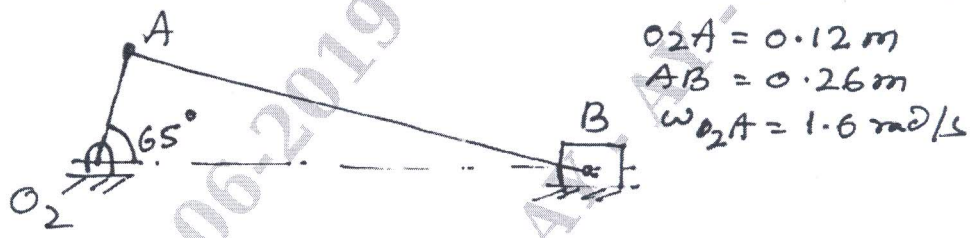

Fig.Q6(b)
- b. For the slider crank mechanism shown in Fig.Q6(b), determine angular velocity of connecting rod and angular acceleration of connecting rod when the crank rotates at 1.6 rad/sec. Use complex algebra method. (08 Marks)